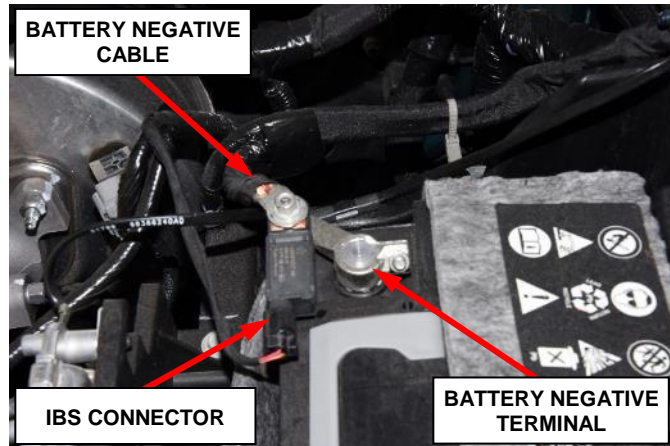

Figure 2 – Battery Cable Negative
5. Disconnect the Intelligent Battery Sensor (IBS) wire harness connector (Figure 2).
6. Remove the ground terminal M8 nut then remove and isolate the negative battery cable eyelet from the IBS and negative battery terminal (Figure 2).
- c. Connect the 12-Volt battery. If equipped with an IBS, connect the IBS connector. Secure the negative battery cable eyelet to the IBS M8 stud using the M8 nut. Tighten the M8 nut to 7 N·m (62 In. lbs.). Overtightening of the M8 nut for the negative cable to the IBS will cause damage to the IBS or break the stud for the nut (Figure 2).
- Connect the 12-Volt battery, wait two minutes before proceeding. If equipped with an IBS, connect the IBS connector. Secure the negative battery cable eyelet to the IBS M8 stud using the M8 nut. Tighten the M8 nut to 7 N·m (62 In. lbs.). Overtightening of the M8 nut for the negative cable to the IBS will cause damage to the IBS or break the stud for the nut (Figure 2).